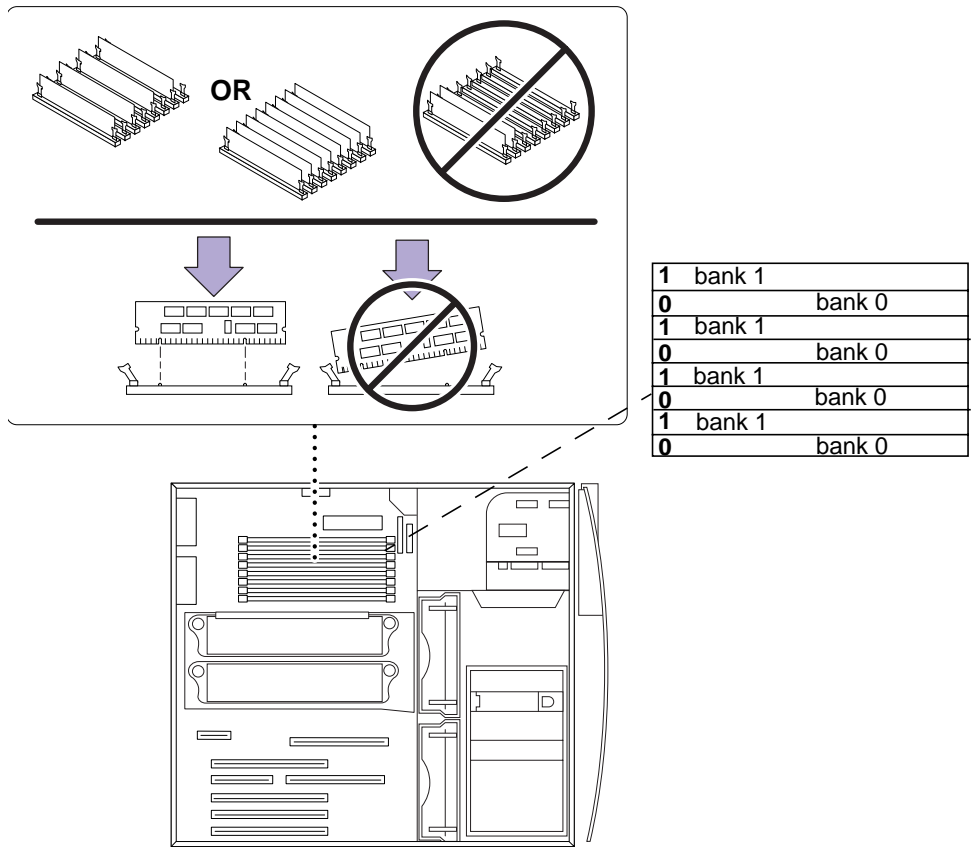

FIGURE 8-5 Removing and Replacing a DIMM
4. Press down the ejection lever at each end of the DIMM connector (FIGURE 8-5).
- The default location for DIMMs installed at the factory is the four connectors labeled “0” (FIGURE 8-5).
3. **Install the DIMM as follows (FIGURE 8-5):**